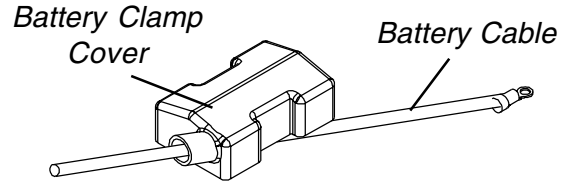

FIGURE 5 - CONNECTING BATTERY CABLES - BATTERY CLAMP METHOD
The battery clamp of the POSITIVE (+) battery terminal/post MUST be mounted in the position shown in FIGURE 5, otherwise the battery box top cannot be installed properly.
2. Install battery clamp covers onto battery cables as follows: (FIGURE 5)